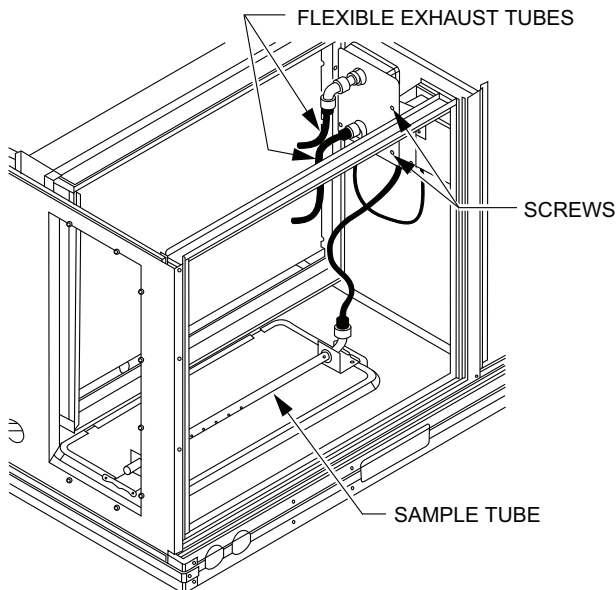

Fig. 35 — Return Air Smoke Detector Shipping Position
1. Unscrew the two screws holding the return air sensor detector plate. See Fig. 35. Save the screws.